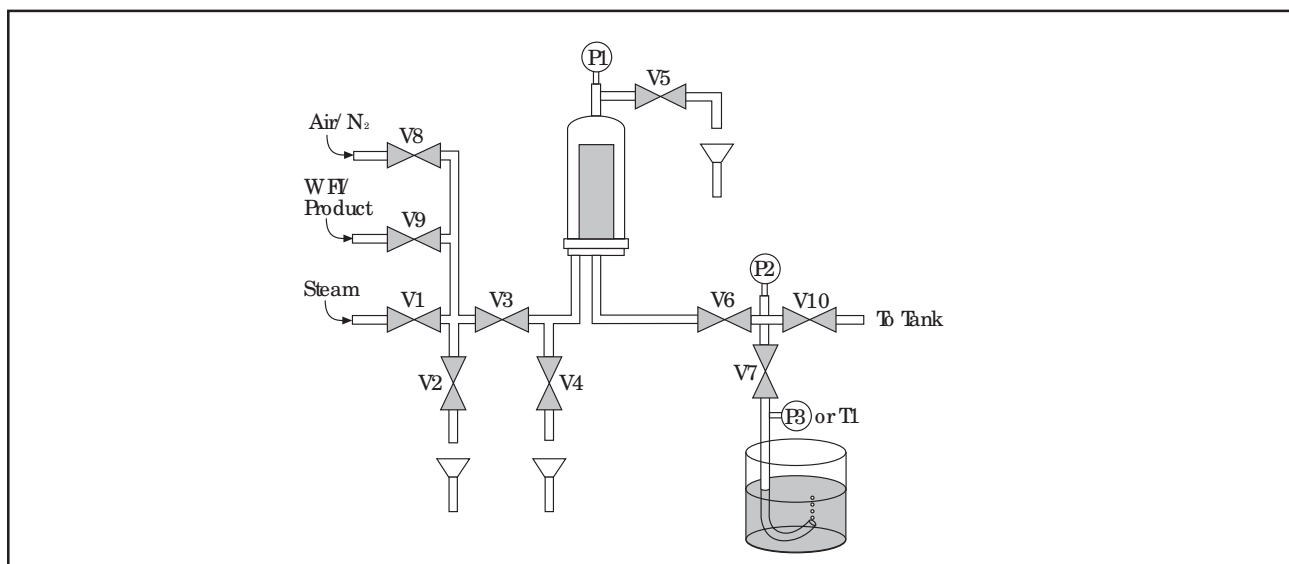

Figure 4–4: Typical sterile filter cartridge and housing assembly for bubble point test
1. Allow excess water to flow out of the down stream side of the system. (Open V8, V3, V6, and V7.) Refer to Figure 4–5.